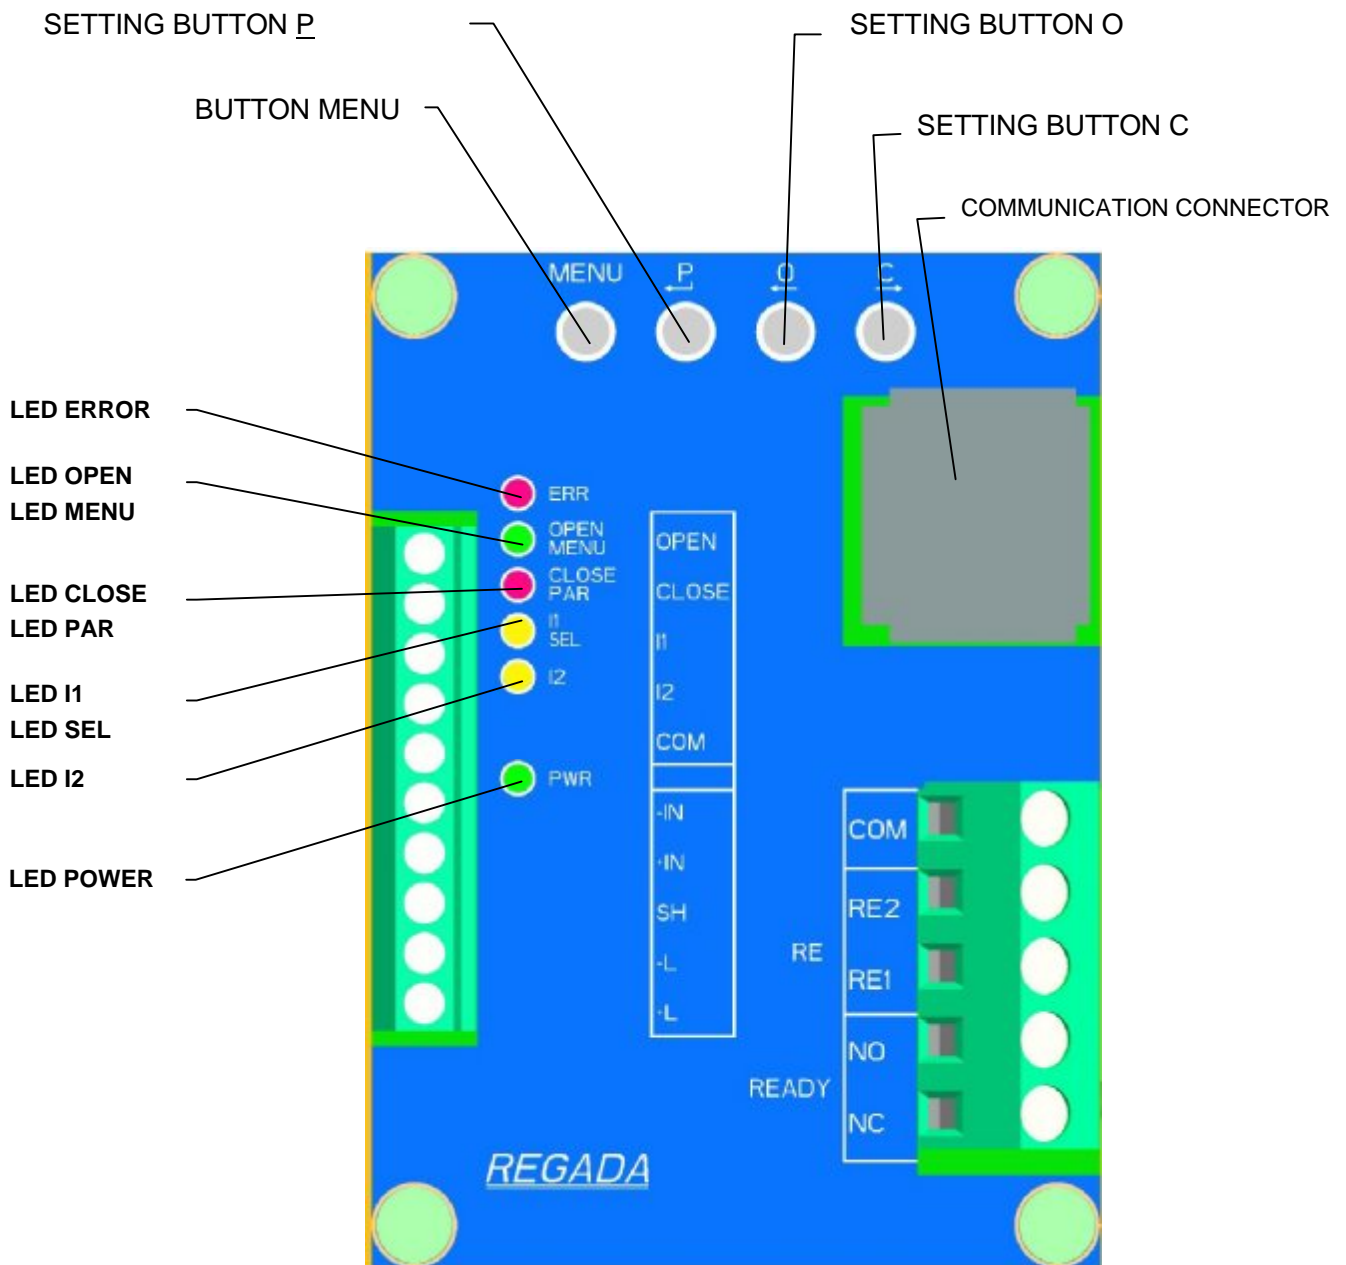
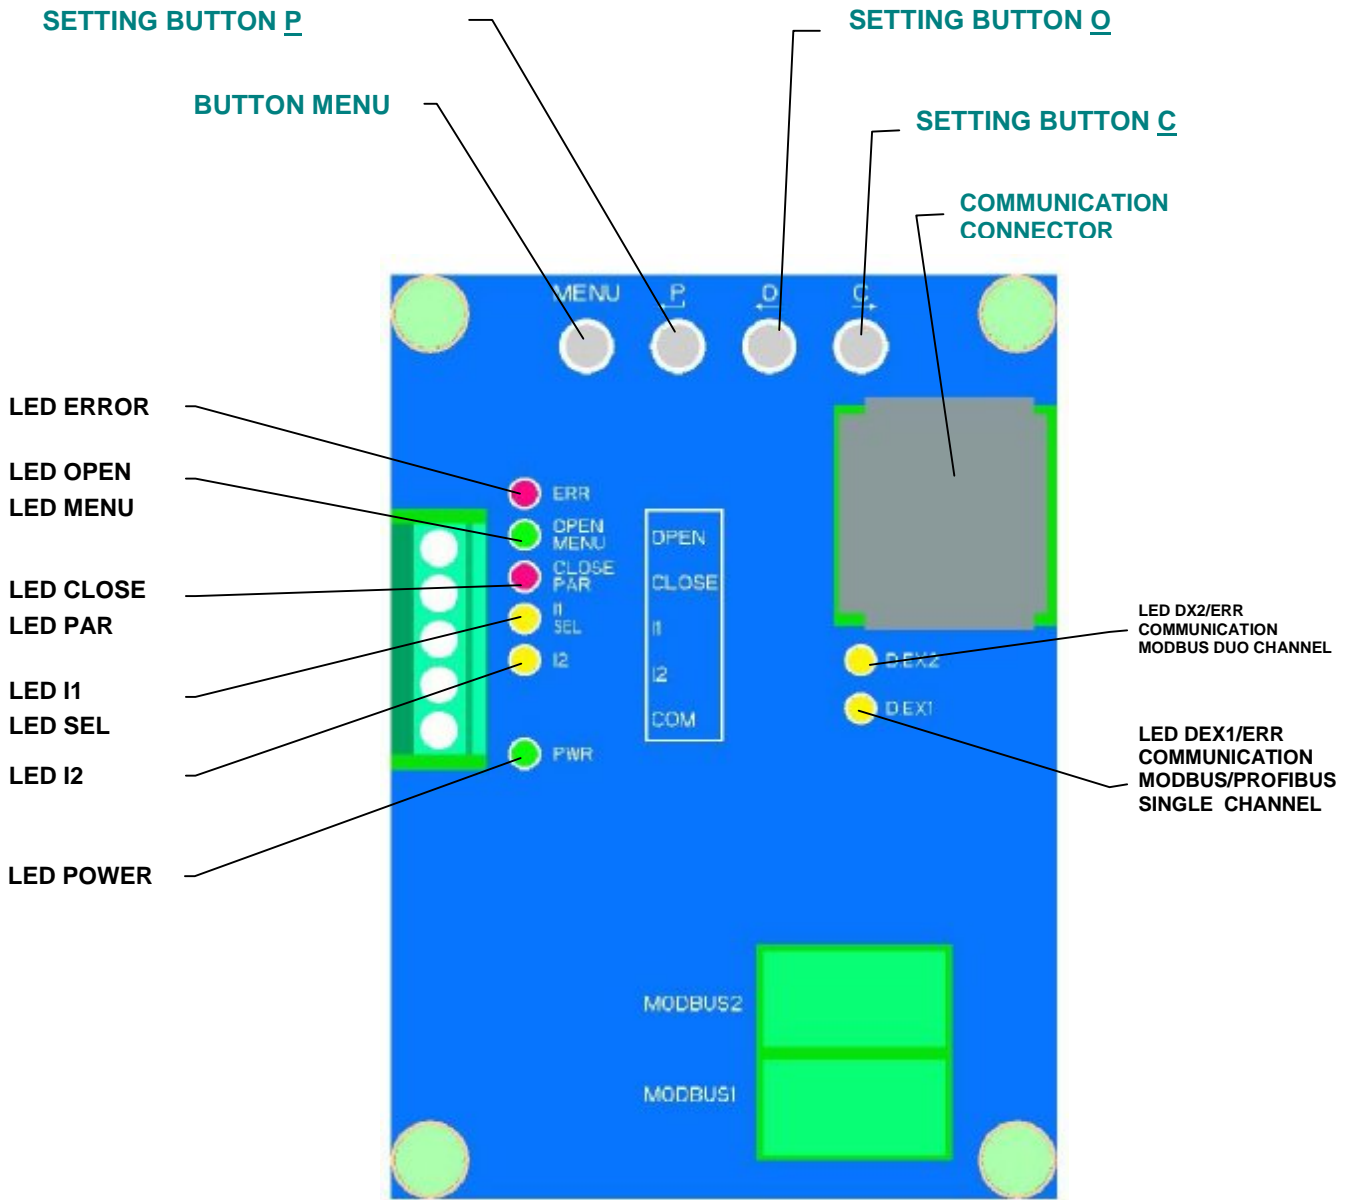

Fig. 6
Fig.6a
Adjustment is made onto mechanical and electrical connected actuator. This chapter describes how to set up the EA to parameter values within a range applicable for the software. Location of adjustable parts of control board is on **Fig. 6 and Fig. 6a**.
- by operating the control unit buttons (see **Fig. 6 and Fig. 6a**);
- six signal lamps according (LED diode) to **Fig. 6 and Fig. 6a**..